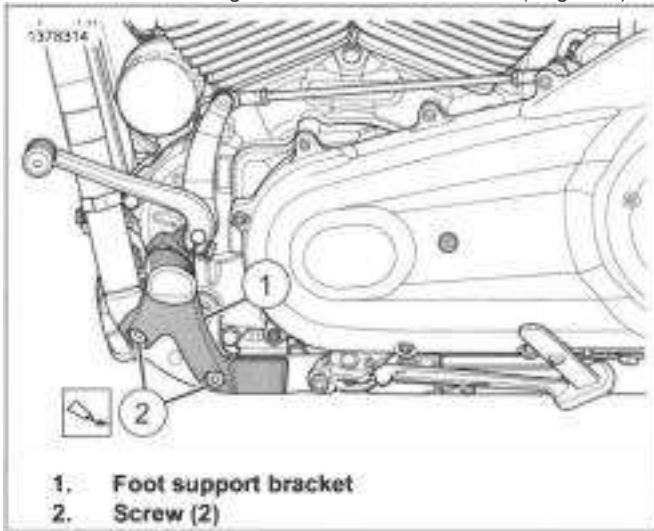

Figure 3-144. Forward Controls
1. See Figure 3-144. Remove screws (2).
2. Remove foot support bracket (1).
1. See Figure 3-144. Install foot support bracket (1).
2. Apply threadlocker to screws (2).